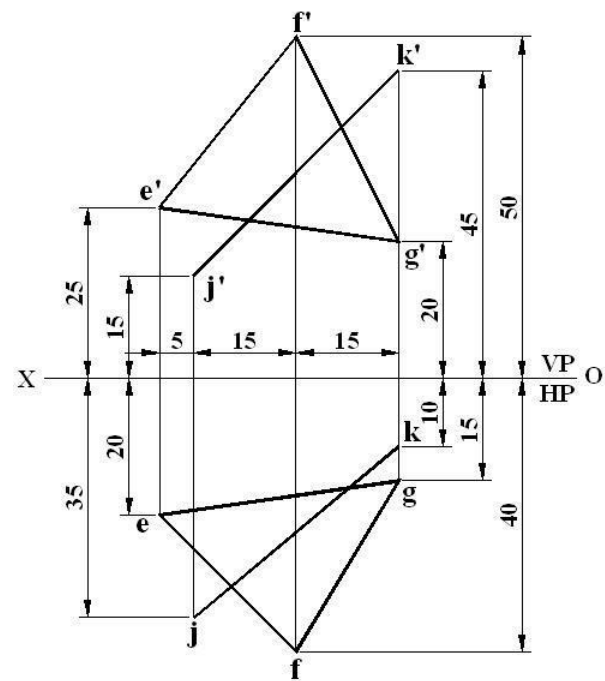

Figure P4.7
7. Determine the intersection of the triangle **EFG** and a line **JK** as shown in **Figure P4.7**. Also show the visibility